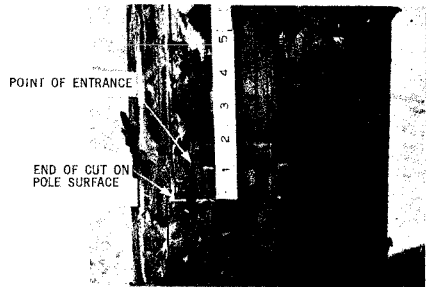

Fig. 16 – Measuring Gaff Cut
5. A gaff, which is correctly shaped and is sharp, will cut into the pole and hold in a distance of 2 inches or less. Measure the cut from point the gaff enters the pole to bottom of cut at surface of pole as indicated in Fig. 16.